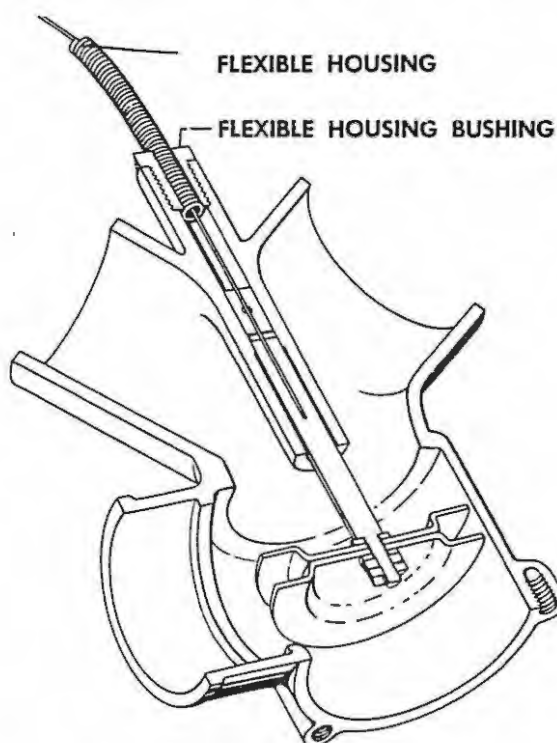

Figure 4-2. Hot Air Control Valve
4-12. DESCRIPTION. A hot air control valve (figure 4-2) is attached to the aft end of each intensifier tube. The valve consists of a cast metal housing containing an inlet and two outlet ports, and a bypass opening to discharge the hot air when heat is not required. Push-pull handles on the control pedestal operate a circular, aluminum, diaphragm type valve which controls the flow of hot air through the valve ports.
1. Unscrew control housing bushing from valve casting (figure 4-2).